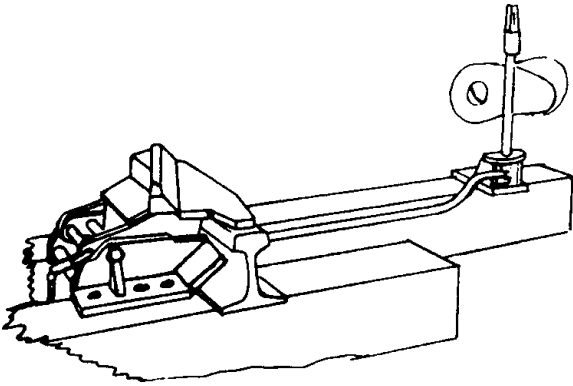

Figure 25 - EB Hinged Derail With Target Stand
9.1 The Target Stand, See Figure 25, may be used with any Hayes Sliding or Hinged Derail to indicate whether the derail is on or off the rail, but it cannot be used to operate the derail.